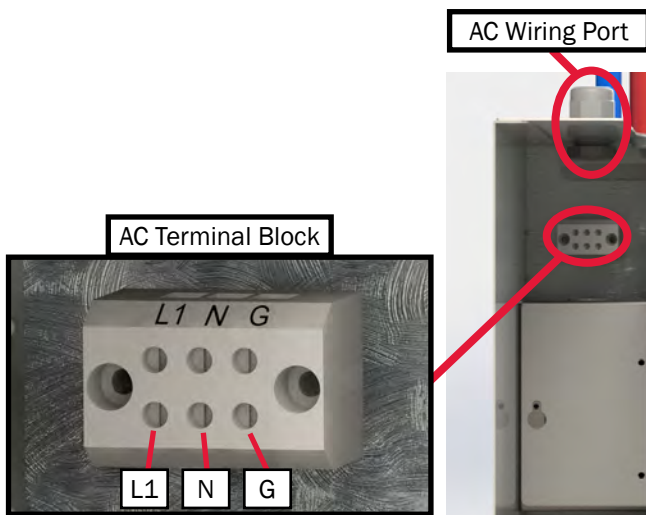

Figure 73
2. Secure the wires into their terminal by tightening the corresponding screw on the terminal block to 5 inch pounds using a slotted screw driver blade no larger than $\frac{1}{8}$ ". See Figure 73 for reference.